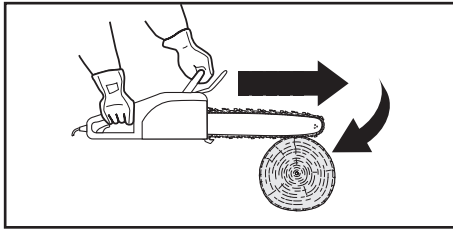

Fig. 24
1. Pinching the saw chain (8) along the bottom of the guide bar (9) may pull the product forward away from the operator (Fig. 24).